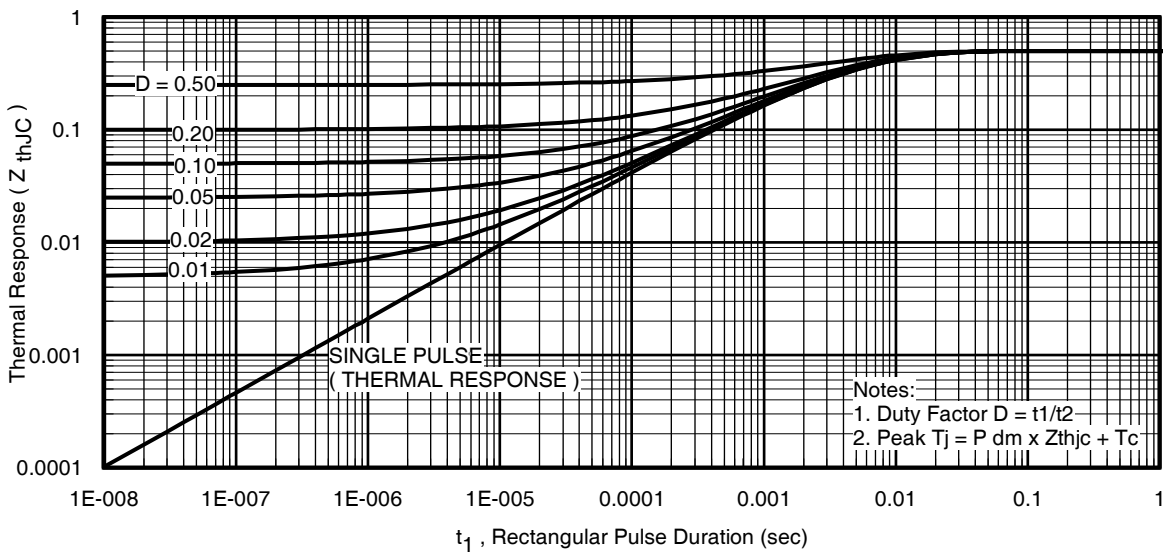

Fig 11. Maximum Effective Transient Thermal Impedance, Junction-to-Case
- ① Repetitive rating; pulse width limited by max. junction temperature. (See fig. 11).
- ② Limited by T_{Jmax} , starting $T_J = 25^\circ\text{C}$, $L=0.24\text{mH}$, $R_G = 25\Omega$, $I_{AS} = 75A$, $V_{GS} = 10V$. Part not recommended for use above this value.
- ③ $I_{SD} \leq 75A$, $di/dt \leq 220A/\mu s$, $V_{DD} \leq V_{(BR)DSS}$, $T_J \leq 175^\circ\text{C}$.
- ④ Pulse width $\leq 1.0\text{ms}$; duty cycle $\leq 2\%$.
- ⑤ $C_{oss\text{ eff.}}$ is a fixed capacitance that gives the same charging time as C_{oss} while V_{DS} is rising from 0 to 80% V_{DSS} .
$Z_{thJC}(D, t_{av})$ = Transient thermal resistance, see figure 11)